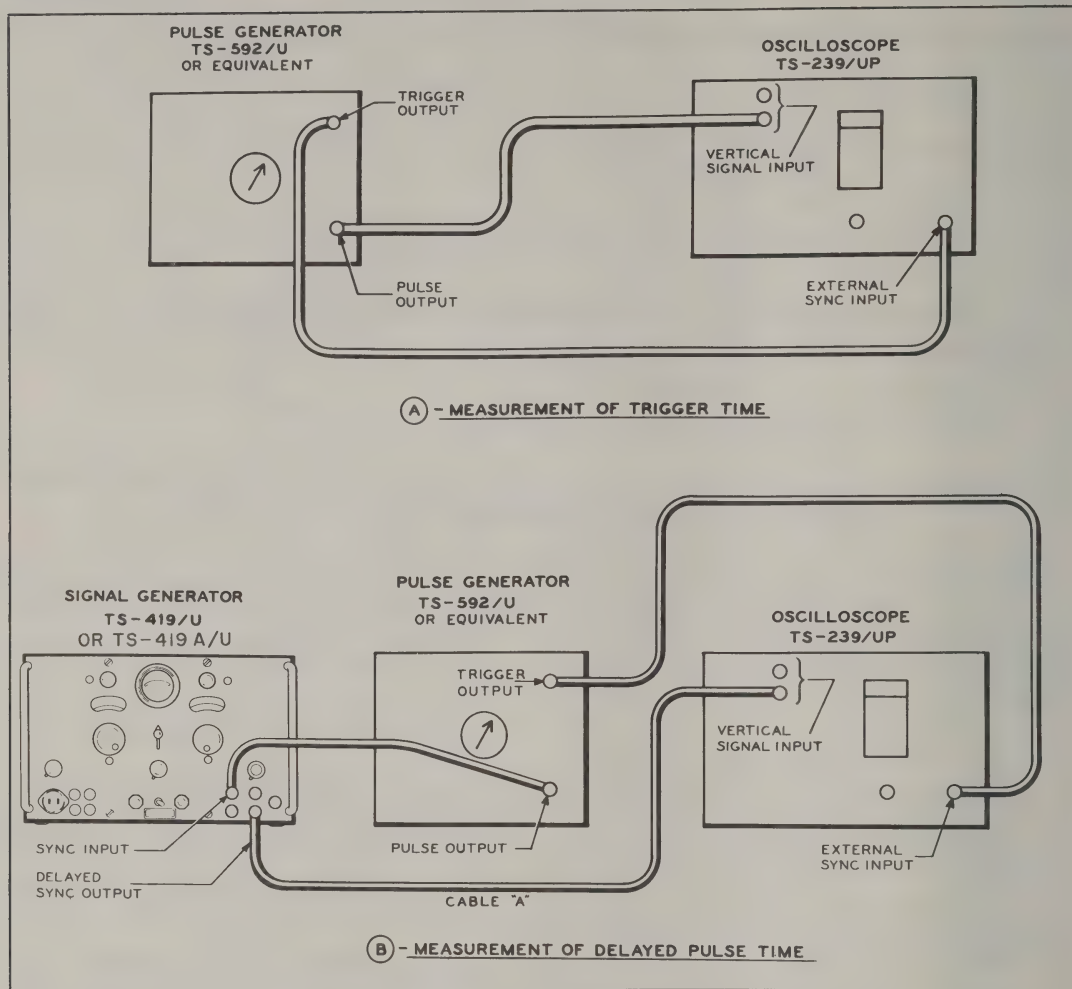

Figure 4-5. Test Connection Diagram for Measurement of Pulse Delay
(1) Connect the required test equipment as shown in figure 4-5.
(2) Turn on the signal generator, Oscilloscope TS-239/UP, and Pulse Generator TS-592/U. Allow a 20-minute warm-up period to insure complete stabilization.
(3) Set the signal generator controls as follows:
(a) Connect the required test equipment, as shown in part A of figure 4-5.
(d) Change circuit connections to external test apparatus to arrangement shown in part B of figure 4-5.
(1) Connect the required test equipment as shown in part B of figure 4-5. Turn the equipment on and